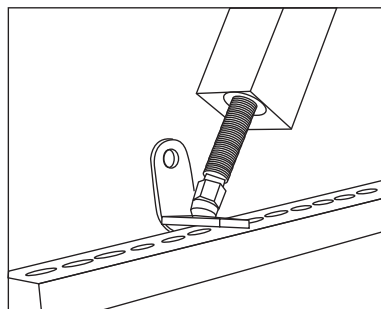

Fig. 3
9. For minor leveling and height adjustments use a wrench on the Leveler Pin (11) to increase or decrease leg height. (Fig. 3)